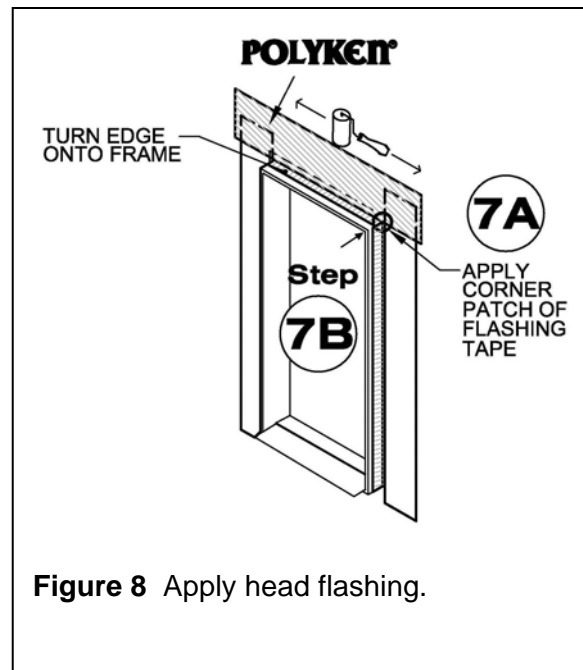

Figure 8 Apply head flashing.
Step 7. Precut Polyken® or Nashua® head flashing tape to extend a minimum of 6" beyond the jambs of the rough opening. Peel off release liner and adhere membrane over door fin (and over optional preformed head flashing). See Figure 8.
Precut Polyken® or Nashua® head flashing tape to extend beyond the jambs of the rough opening a minimum of 9 in. Peel off release liner and adhere membrane over door fin (and over optional preformed head flashing). See Figure 8. Turn onto frame and refer to General Application Guide, Condition 3.